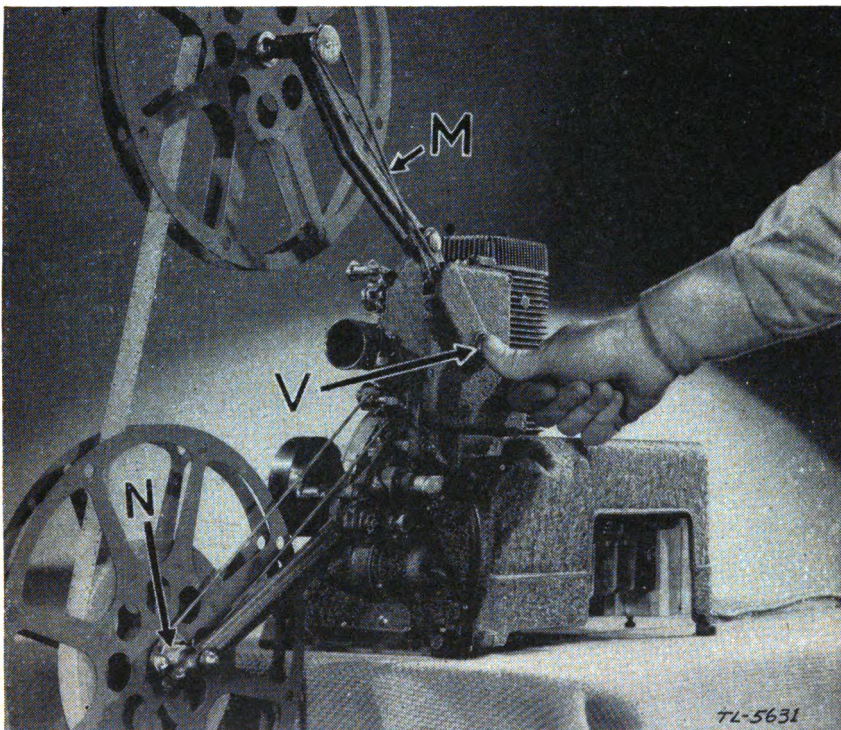

FIGURE 20.—Rewinding Ampro YA projector.
(6) If the film breaks, lap the broken end around the take-up reel, or repair temporarily, using adhesive tape. Mark the break by inserting a small piece of paper in the reel. Splice the film as soon as the showing is finished.
*c. Rewinding.*—(1) *Ampro YA.*—After completing projection, loop the free end of the film around the empty reel; disengage take-up belt at *N*; cross the belt *M* on the feed reel; hold in the rewind button *V*; and start the projector motor. (See fig. 20.)